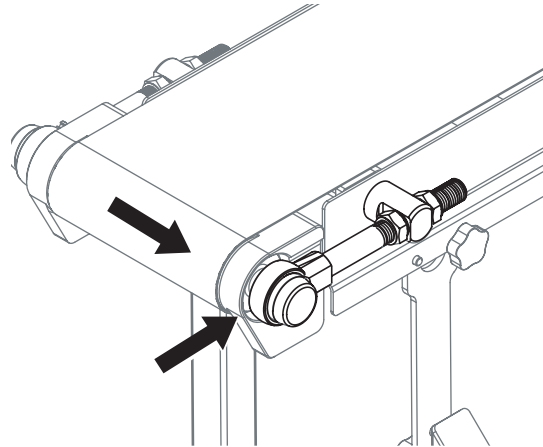

Figure 49
- a. Loosen the nut to shorten the length of the idler tail shaft and bring the belt closer to that side of the conveyor (Figure 49).